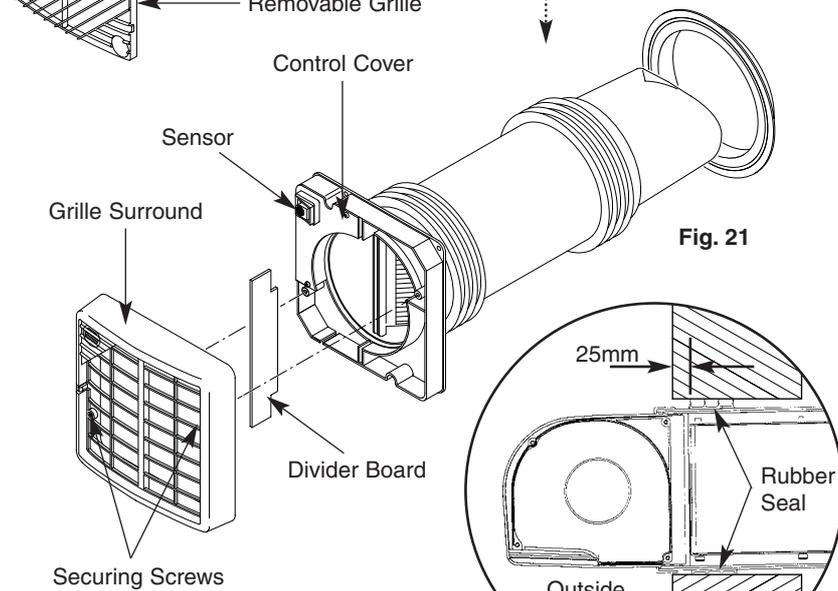

Fig. 21
3. Loosen the two securing screws and remove the grille surround (Fig. 21).
4. Remove the divider board (Fig. 21).